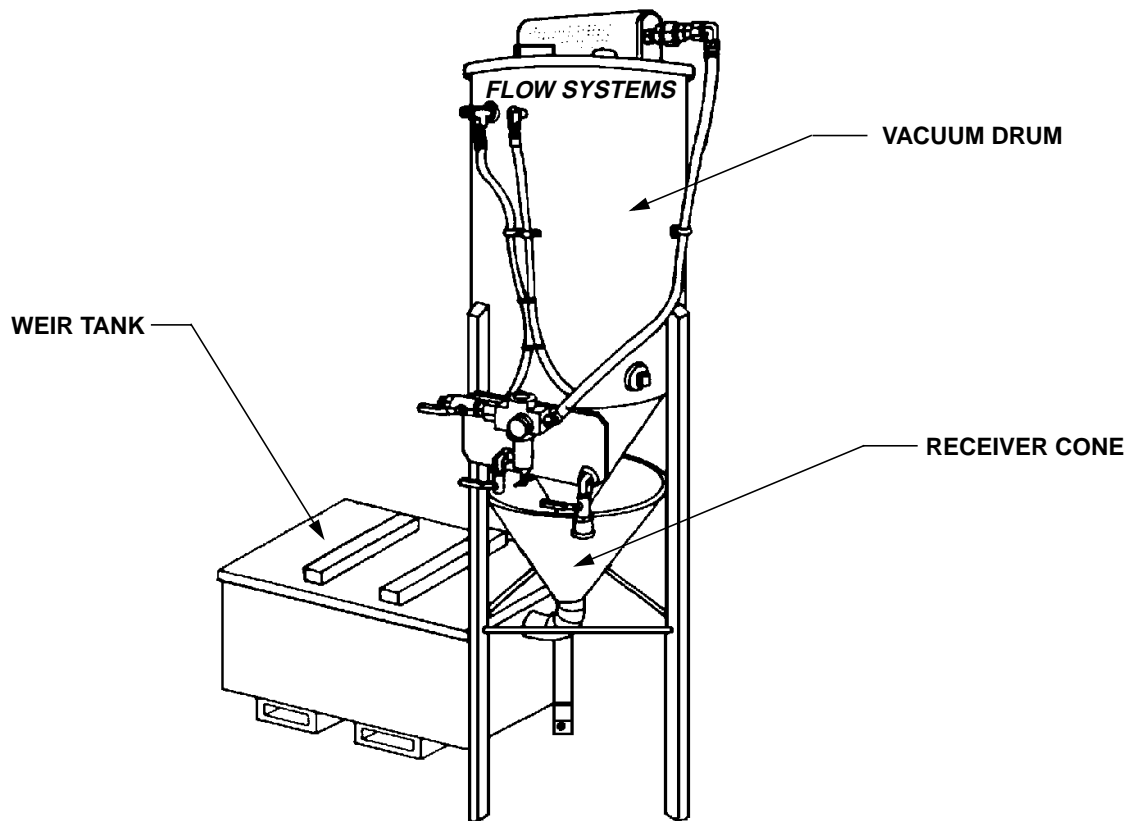

FIGURE 4 - GENERAL DESCRIPTION OF MODEL 889 VACUUM AND WASTE HANDLING SYSTEM
- 5.1.2.4 Process water, cutting debris and, if applicable, spent garnet and pulverized catcher balls are disposed of through the Model 889 Abrasivejet Vacuum and Waste Handling System (see Figure 4). Refer to section 5.3 for a description of the basic operation of the Model 889 vacuum system.
- 5.2.2 The Model 425 Paser consists of a nozzle body for mixing the abrasive garnet with high pressure water and a material hopper with a material flow control valve (see Figure 4).
- 5.6.1.1 Start-up procedures for the reverse osmosis water filtration system, intensifier pump, and cutting stations are shown in Figure 4 through Figure 6.